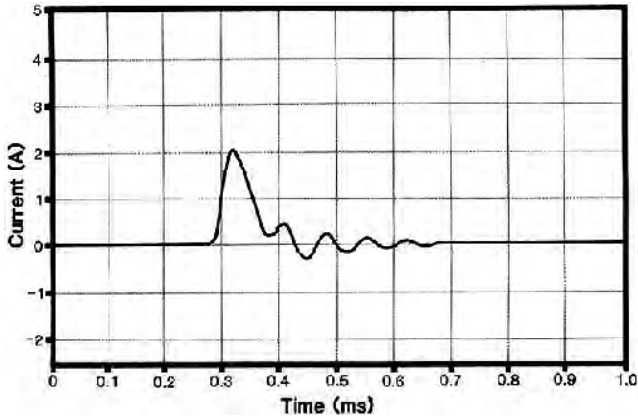

FIGURE 39. Dry Condition Current Output.
**Shock Intensity:** Current output for dry and wet conditions while hooked to the Fence 1 terminal are shown in FIGURES 39 and 40.